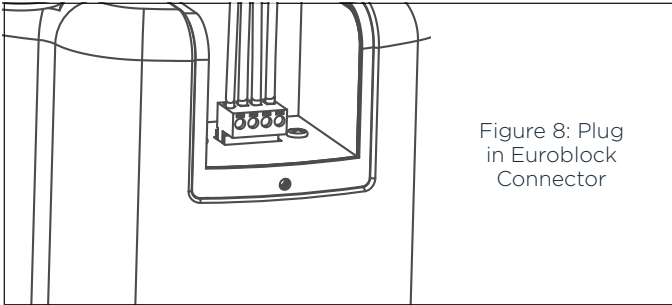

Figure 8: Plug in Euroblock Connector
- Once all the wires are terminated. Plug the Euroblock Connector into the back of the loudspeaker (see Figure 8).